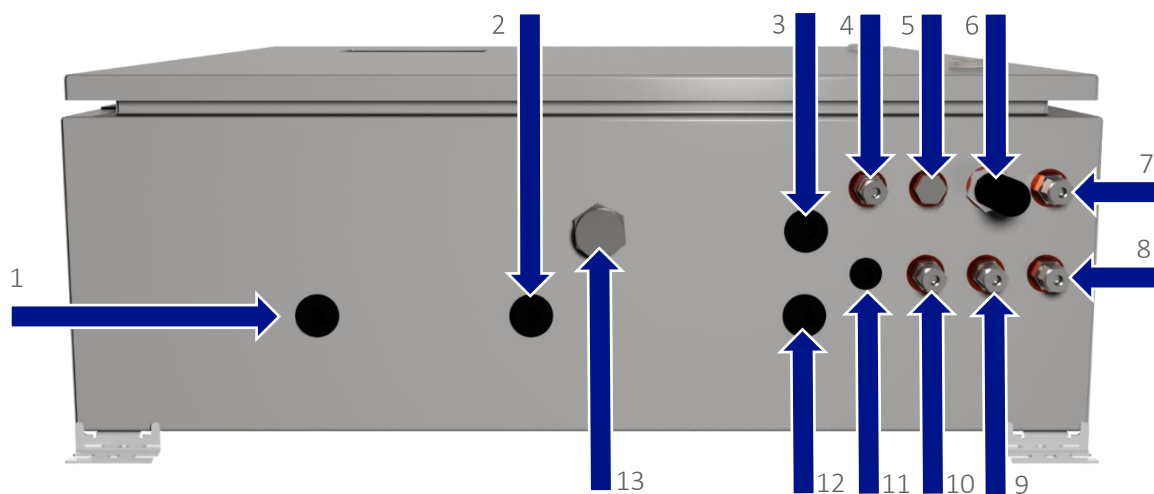
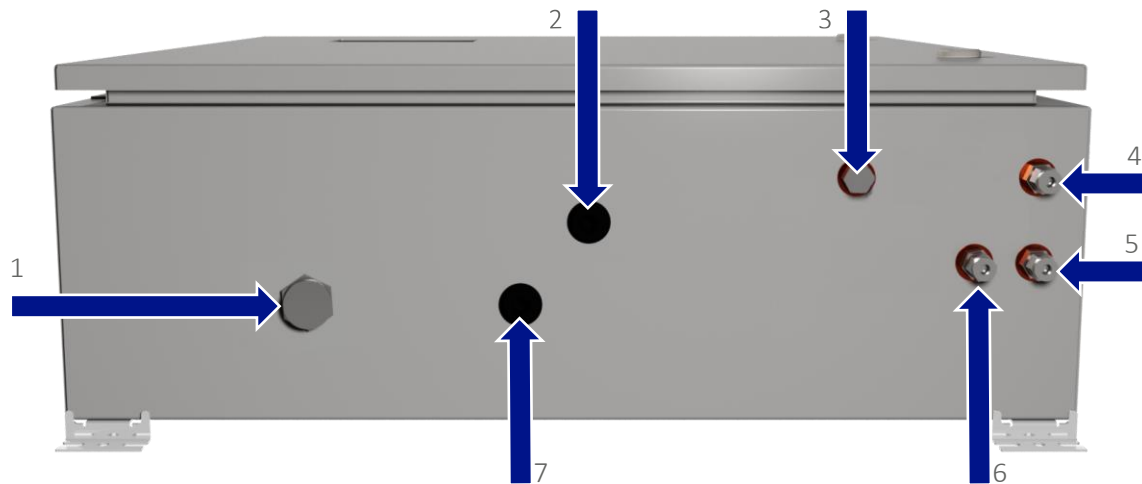

Figure 4 - BIOMETHANE 3000 customer connections
Figure 5 – Auto-calibration customer connections
- Compression fittings – found on the bulkheads on the enclosure base (see annotations 4, 5, and 7-11 on Figure 4 - BIOMETHANE 3000 customer connections and annotation 4-6 on Figure 5 – Auto-calibration customer connections).
There is an enclosure breather fitted to the BIOMETHANE 3000 situated at the base of the enclosure (see annotation 13 on Figure 4 - BIOMETHANE 3000 customer connections). It is the user's responsibility to ensure that there is a free circulation of air around the cabinet.
There are two enclosure breathers fitted to the auto-calibration system, situated at the base of the enclosure (see annotation 1 on Figure 5 – Auto-calibration customer connections) and the right hand side of the enclosure. It is the user's responsibility to ensure that there is a free circulation of air around the cabinet.
The installation will require the operator to connect a mains cable, output cable, relay cable, pressure transducer cable, drain, and gas pipes to the equipment. Figure 4 - BIOMETHANE 3000 customer connections identifies the available connection points on the BIOMETHANE 3000:
- The sample tube should be connected to the bulkhead connector labelled 'SAMPLE GAS 1' – see annotation 4 on Figure 4 - BIOMETHANE 3000 customer connections.
- The gas exhaust line should be connected to the bulkhead connector labelled 'PROCESS RETURN' – see annotation 7 on Figure 4 - BIOMETHANE 3000 customer connections.
- The sample tube should be connected to the bulkhead connector labelled 'AUTO-CAL IN' – see annotation 10 on Figure 4 - BIOMETHANE 3000 customer connections.
If uncontaminated air cannot be guaranteed at the location of the analyser, the particulate filter should be removed and a pipe should be connected in its place and terminated at a point where uncontaminated air is present. The sample tube should be connected to the bulkhead connector labelled 'AIR IN' – see annotation 6 on Figure 4 - BIOMETHANE 3000 customer connections.
- The sample tube should be connected to the bulkhead connector labelled 'VENT TO ATMOSPHERE' – see annotation 9 on Figure 4 - BIOMETHANE 3000 customer connections.
- The drain line should be connected to the bulkhead connector labelled 'DRAIN' – see annotation 8 on Figure 4 - BIOMETHANE 3000 customer connections.
- The gas line will need routing from the gas bottle regulator to the auto-calibration system, connected to the bulkhead connector labelled 'CALIBRATION GAS IN' – see annotation 3 on Figure 5 – Auto-calibration customer connections.
- The gas line will need connecting to the bulkhead connector labelled 'CALIBRATION GAS OUT' – see annotations 6 on Figure 5 – Auto-calibration customer connections.
- The gas lines will need connecting to the bulkhead connectors labelled 'VENT (HIGH PRESSURE)' and 'VENT (LOW PRESSURE)' – see annotations 5 and 4 respectively on Figure 5 – Auto-calibration customer connections.